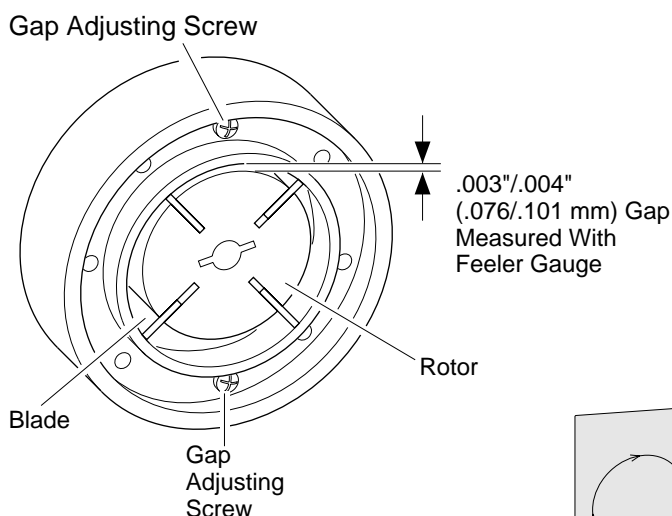

Figure 19 - Gap Adjusting Screw Locations
9. Check gap on rotor. Adjust to .003"/.004" (.076/.101 mm) if needed (see Figure 19).